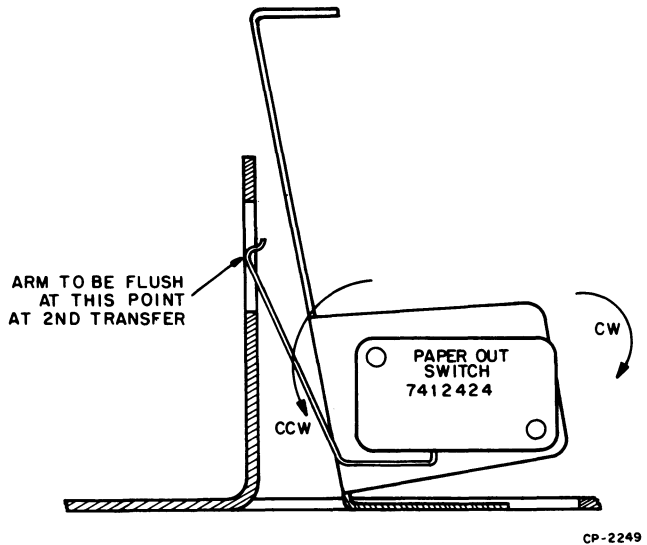

Figure 8-12 PAPER OUT Switch Adjustment
4. Rotate the PAPER OUT switch counterclockwise (Figure 8-12) until the switch clicks (transfers). Then rotate the switch clockwise until the switch clicks again (transfers back). Tighten the two (4-40) screws to 5 ± 1 in-lb.